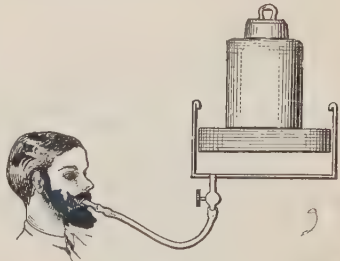

FIGURE 66.
① What is meant by fluid pressure?
5. Explain the weight lifter (Figure 66). Compare the *pressure* exerted at the mouth with that against the piston. Compare the *total force* on the air in the tube with that at the piston.
14. In Figure 66, the area of the piston is  $30 \text{ in}^2$ . The boy exerts a pressure of  $12 \text{ oz/in}^2$ . How heavy a weight is lifted?